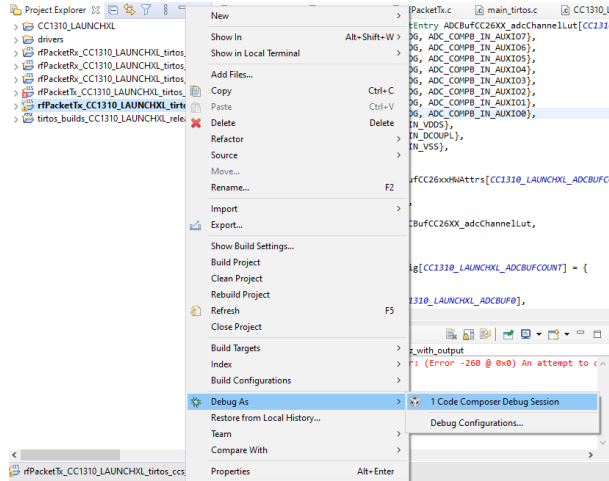

Figure 7: Begin debugging session
5. Finally, start debug session to flash the program into CC1310 as in Figure 7.